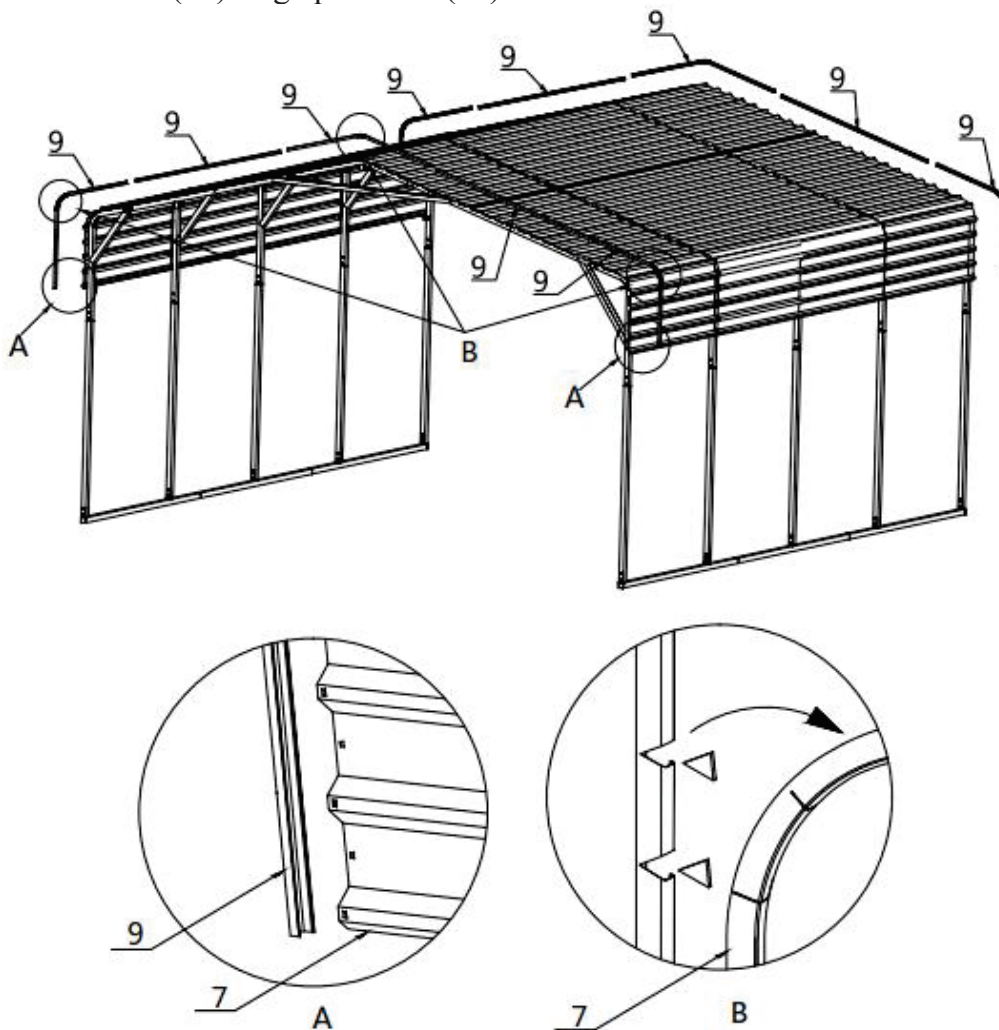

Figure 10
- Start to install the color steel tile Edge protector (#9) from one side, and align one end with the color steel tile edge. The opening of the edge banding strip of the color steel tile shall be aligned with the end face of the color steel tile, and the bottom buckle can be pressed into place. It is necessary to use tools to cut out the gap at the corner so that the edge banding strip of color steel tile can be bent and installed (refer to Figure 10)
- (10) Edge protector (#9)